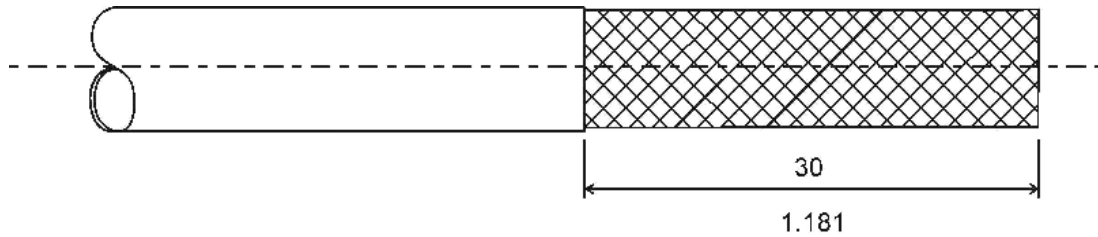

FIGURE 5
- B. Remove the outer jacket of the cable to the length shown in figure 5. Take care not to nick the shield or cut into any of the conductors.